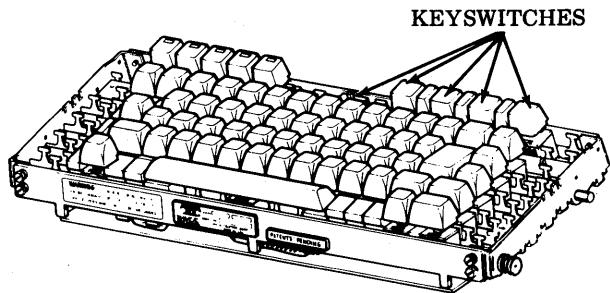

Fig. 14—Keyswitch Identification
- Remove INTERLOCK, PRINTER TEST, PARITY, DUPLEX and CPS keyswitches (Fig. 14). (Refer to D. Keyswitches.)